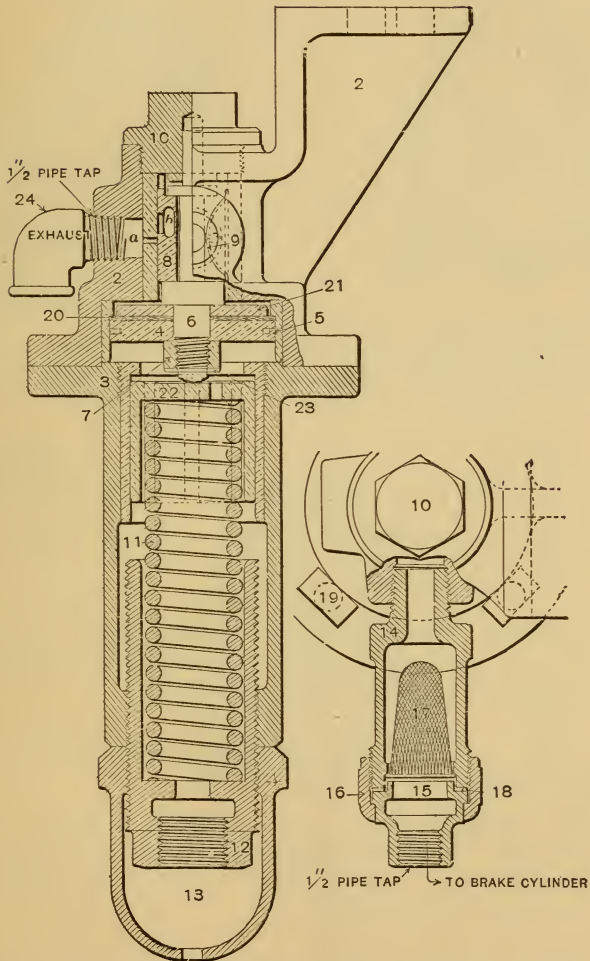

FIG. 55.—HIGH-SPEED AUTOMATIC REDUCING VALVE.
A. The automatic reducing valve shown in the accompanying cut (Fig. 55).